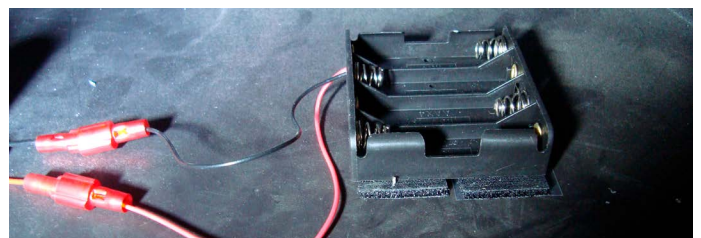

Figure 23 *Battery holder wires*
2. Connect the red and black wires from the battery holder to the red and black wires from the valve harness. See Figure 23.